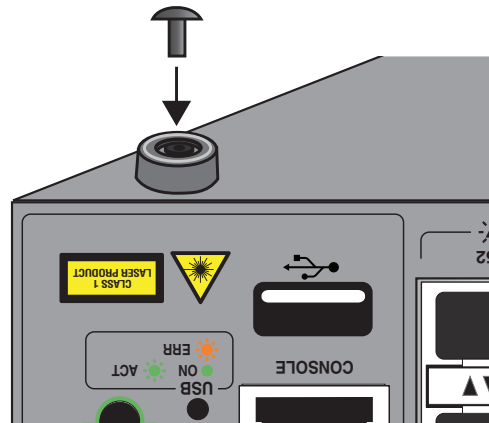

Figure 37. Inserting the Rivet into the Bumper Foot
4. Insert the rivet to secure the bumper foot to the base. Refer to Figure 37 on page 107.